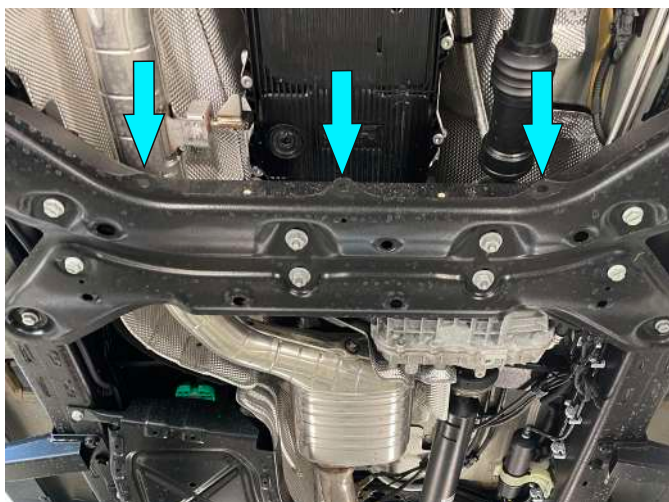

Fig. 5
4. Slide the crossmember (item 2) and left side control arm skid into place. Loosely install M10x150 bolt, M10 washers and M10 nut (items A, E, F) as shown in Fig. 5 and Fig. 6.